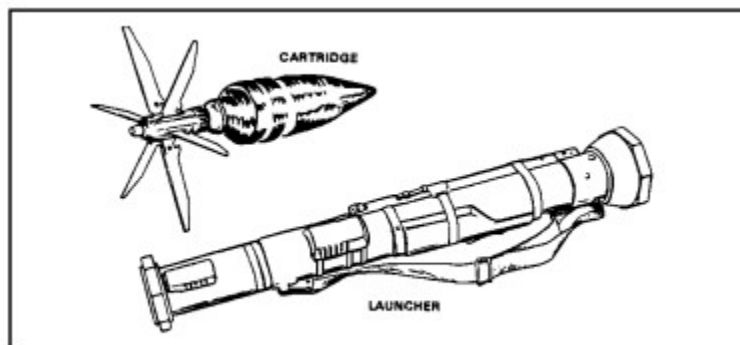

Figure 1-4. Launcher and Cartridge, 84-mm, M136 (AT4), HEAT.
a. Characteristics. The AT4 is a lightweight, self-contained antiarmor weapon. It consists of a free-flight, fin-stabilized cartridge packed in an expendable launcher. It is man-portable and fired from the right shoulder only. It is issued as a round of ammunition and requires minimal operator maintenance. The launcher (shown in Figure 1-4) serves as a watertight packing container for transportation and storage.